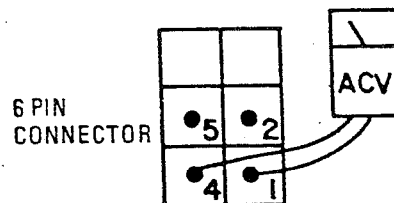

Figure 5-2. Back View Connector B'
3. Use an AC voltmeter capable of measuring 120 VAC and measure the voltage between pins 1 and 4 (black and white wires) located in connector B'. See figure 5-2. You should receive line voltage 120 VAC.